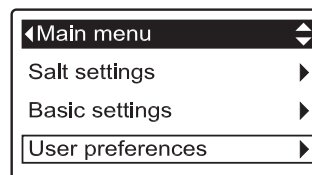

FIG. 42
1. From any of the rolling status screens, press the SELECT (O) button to display the **Main menu**.
2. Press the DOWN (▼) button to scroll through the menu options until **User preferences** is highlighted (See Figure 42).